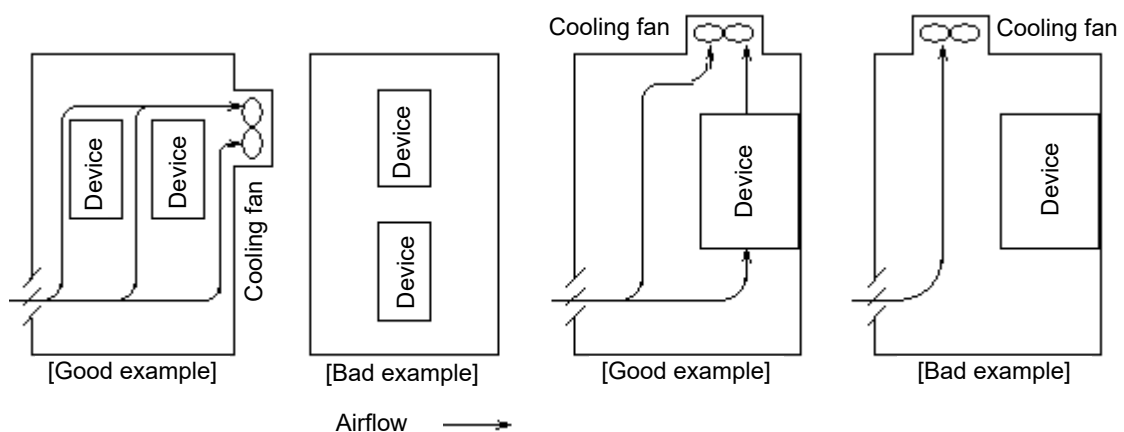

Figure 2-1 Alignment example when storing plural devices
- (1) For information about the ambient conditions of the device, refer to "12-1-2 General specifications".
- (2) The device lifetime has a close relation with the temperature in use. A use under the high temperature and high humidity environment may shorten the device lifetime. Generally, it is said that an increase of 10°C in temperature can shorten the lifetime of equipment to half.
- (3) For the temperature inside the storage control panel, consider the surrounding temperature and the temperature increase due to a loss in this device and in the equipment inside the panel. Be sure to keep the surrounding temperature of the device within the permissible range. In general, the calorific value of this device due to loss is as listed below.
- (4) As the device is equipped with a fan to cool the radiator, secure an opening not to block airflow. When storing plural devices, align them so that ventilation does not influence each other. (Refer to Figure 2-1.)
- (5) If there are nearby heating elements and vibrating sources, prepare an appropriate construction against the influence.
- (6) Do not install the product in a place of high temperature and high humidity or in places where excessive dust particles, metal powder, and cloud of steam exist, and in an environment where corrosive gas exists.
- (7) If there is a noise generation source, reinforce the grounding treatment to avoid mixture of induction noises. Depending on the use conditions, a noise filter may be required. Conduct the noise protection measures, referring to "2-9 Noise protection".